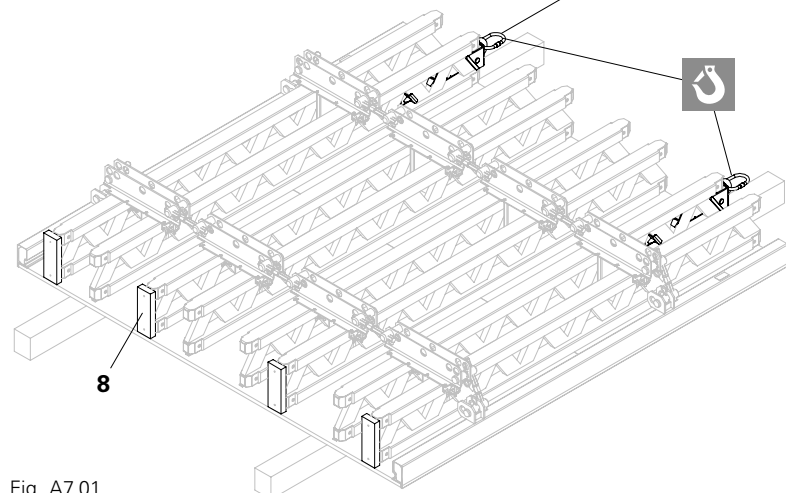

Fig. A7.01
1. Insert Crane Splice 24 (9) into the lattice-work of the girder and secure using securing bolts and cotter pins (9.1).
2. The supporting plate must enclose the web of the GT 24. (Fig. A7.01)
The rubbing board (8) is to be fixed to every second lattice girder with nails. (Fig. A7.01)